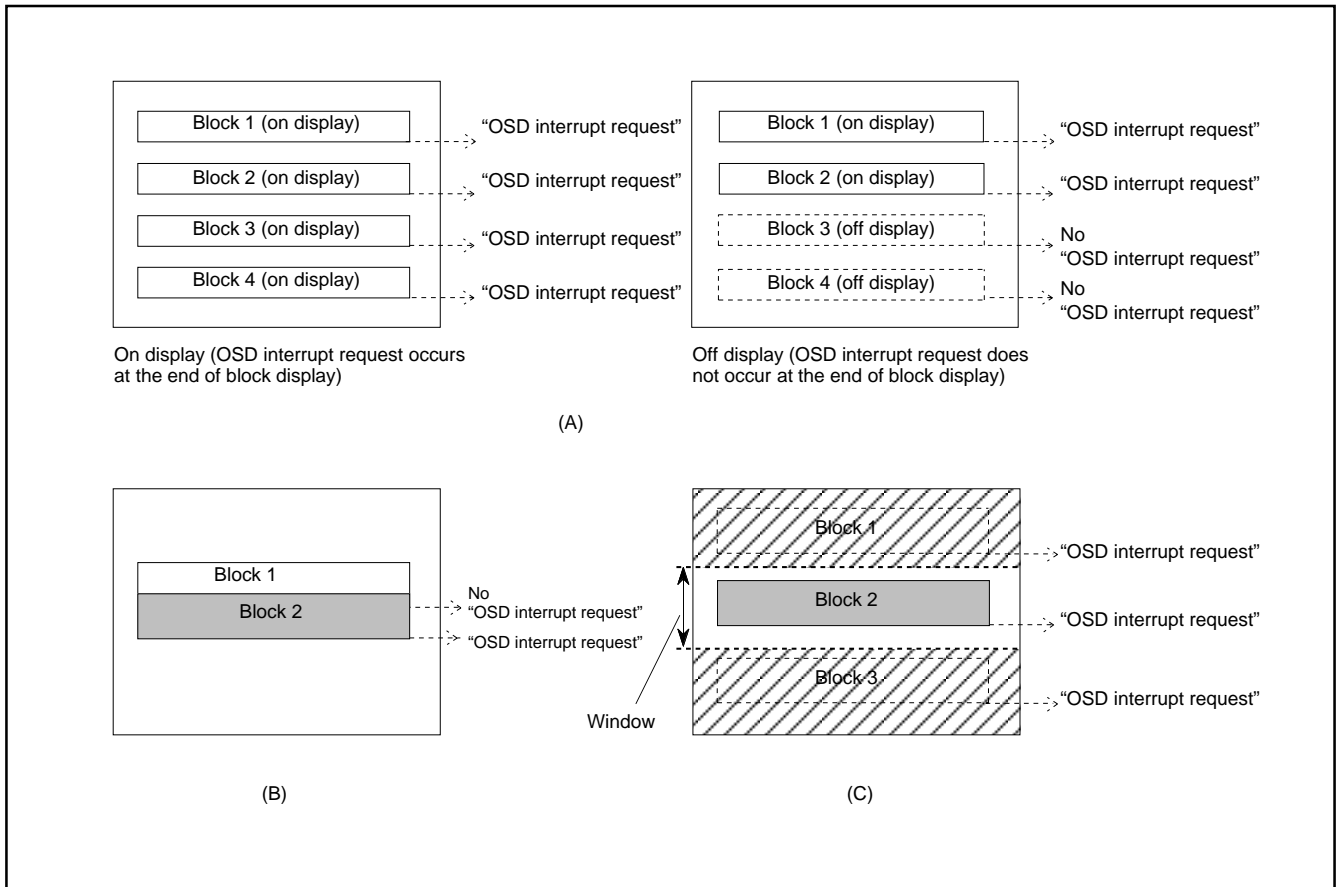

Fig. 8.11.36 Note on Occurrence of OSD Interrupt
- Notes 1:** An OSD interrupt does not occur at the end of display when the block is not displayed. In other words, if a block is set to off display by the display control bit of the block control register i (addresses 00D016 to 00DF16), an OSD interrupt request does not occur (refer to Figure 8.11.36 (A)).
- 2:** When another block display appears while one block is displayed, an OSD interrupt request occurs only once at the end of the another block display (refer to Figure 8.11.36 (B)).
- 3:** On the screen setting window, an OSD interrupt occurs even at the end of the CC mode block (off display) out of window (refer to Figure 8.11.36 (C)).